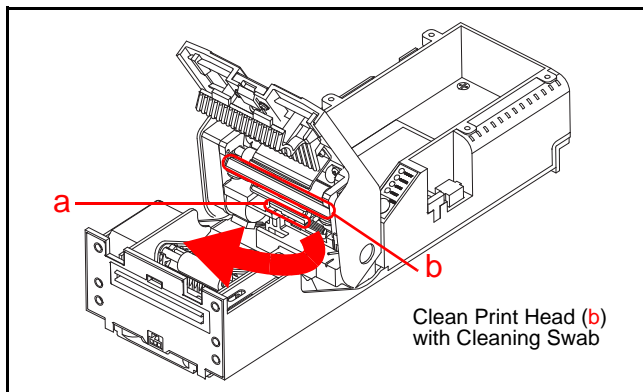

Figure 13 Print Head Release Lever/Print Head
- Print Head (refer to Figure 13 b on page 18)
6. Open the Print Head Release Lever (Figure 13 **a**).
7. Clean the Print Head (Figure 13 **b**) using a Cleaning Swab.
- Close the Print Head Release Lever (refer to Figure 13 a on page 18).